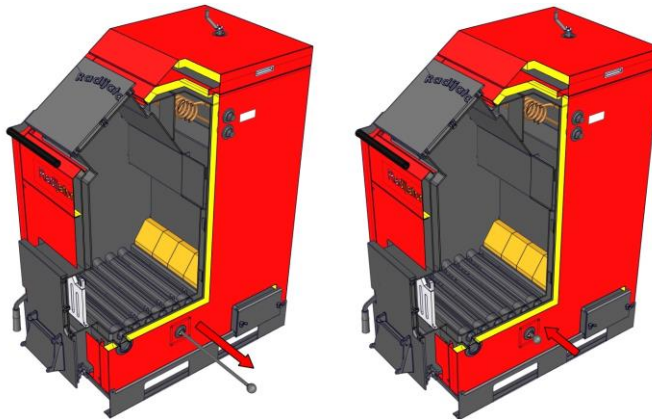

Figure 15. Shows handle for cleaning spaces between pipes of the grill
- Daily cleaning relates to the combustion space itself, which is to the space between pipes of the grill. On right side of the boiler there is a handle (factory placed) which serves for the user to clean the space between the pipes of the grill (**see figure 15**). This handle can be taken down and moved to the left side of the boiler easily.